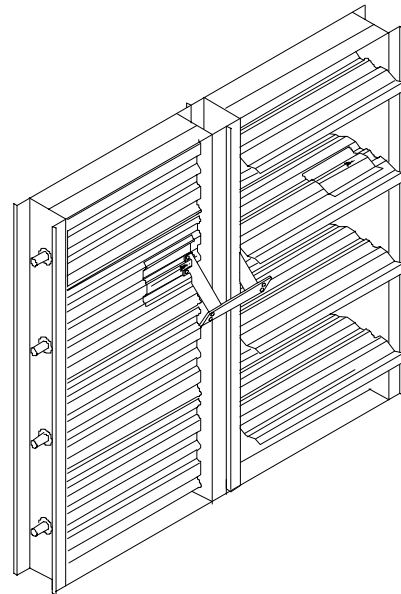

Figure 6: Locating Bracket
4. Position the blades of each damper for the desired operation as shown in Figure 6.